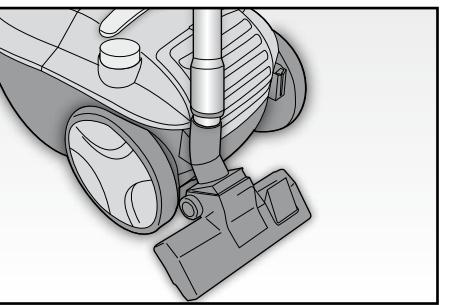

Fig. 6
- The appliance can be stored using the special rear hook for the floor brush (FIG. 6).